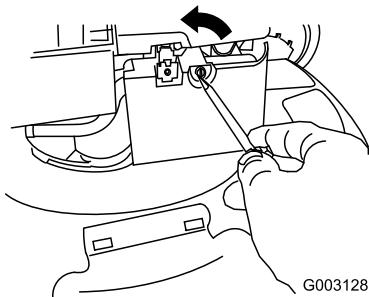

Figure 40
- Use a screw driver to open the air filter cover (Figure 40).